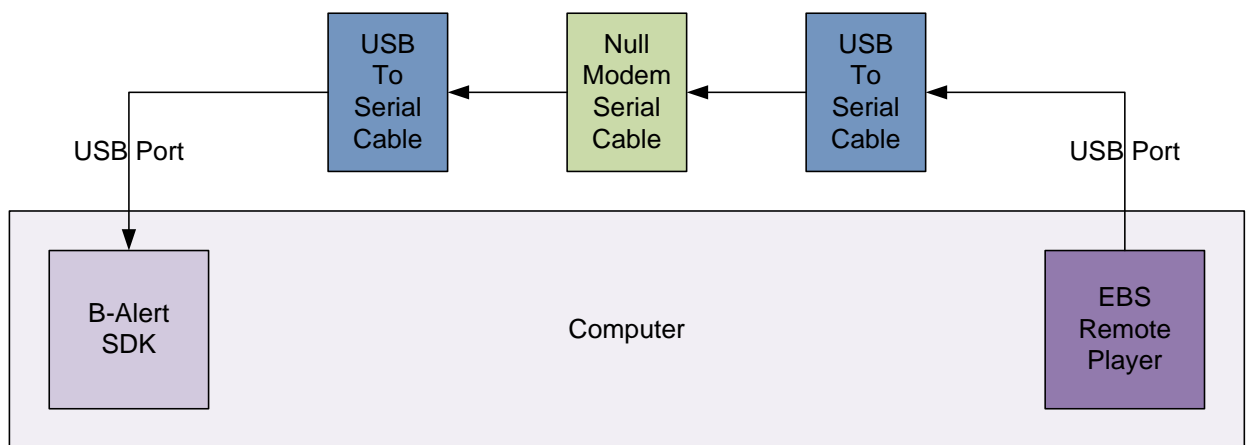

Figure 6: Connecting EBS Remote Player to B-Alert SDK
1. **Wiring the connection:** Both B-Alert SDK and EBS Remote Player communicate via Virtual COM ports (registered by USB-to-Serial Converters). The following cables are essential in order to setup the connection: i) USB-to-Serial cable (2) – two USB-to-Serial cables must be used in order to open two Virtual COM ports in the computer. One of each will be used by the Remote player and the SDK. ii) Null modem cable (1) – a null-modem cable must be used to bridge the two USB-to-Serial cables (see Figure 6). It is recommended that both B-Alert SDK and the EBS Remote player be executed in the same computer.